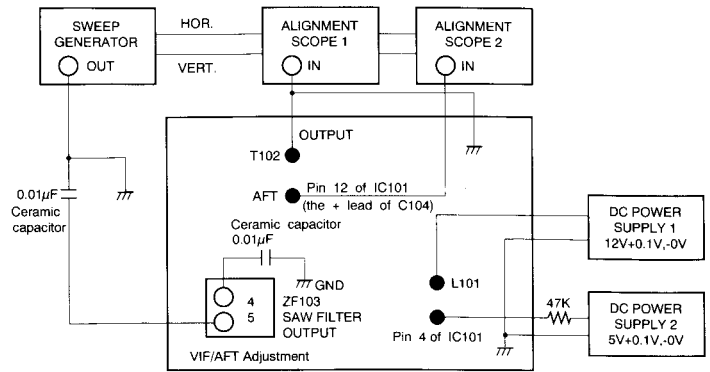
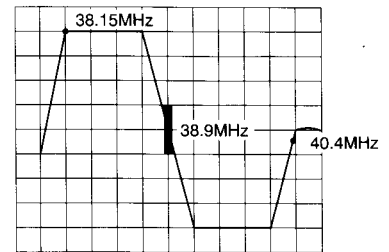
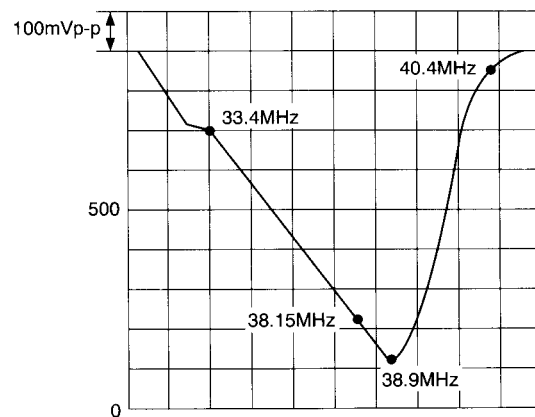
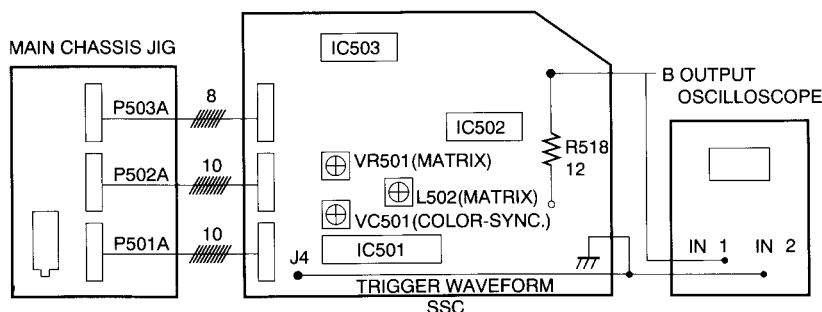

Fig. 1
Fig. 4 AFT Adjustment Waveform
Fig. 3 VIF Adjustment Waveform
Fig. 5 Connection Diagram
- ① Connect equipment to the main chassis referring to fig.1.
- ② Vary the controller of the alignment scope 1 so that the waveform's size may be proper for adjustment.
- ③ Vary L103 the 38.9MHz to be located as shown in fig.3.
- ① Adjust AFT after VIF adjustment.
- ② Vary the controller of the alignment scope 2 so that the waveform's size may be proper for adjustment.
- ③ Confirm the output from the SWEEP GENERATOR whether the set condition is correct or not.
- ④ If it is not correct, vary the RF ATENUATOR(1-10dB).
- ⑤ Vary L102 the 38.9MHz to be located as shown in fig.4.
- ⑥ Short SL1.
- ① Connect equipment to the chroma board referring to fig.5.
- ② Supply the digital pattern signal to the TV.
- ③ Set the color, contrast, brightness to normal using the remote control key (→, ←).
- ④ Connect the pin 6(color) of IC501 to the pin 1(12V) of IC501.
- ⑤ Short the 21(B-Y) of IC501 and the pin 22(R-Y).
- ⑥ Vary VC01(trimmer capacitor) so that the color bar does not flow.
- ① Adjust MATRIX after COLOR SYNC adjustment.
- ③ Set the color, contrast, brightness to normal using the remote control key(→, ←).
- ④ Connect the IN1 terminal of the oscilloscope the R518 as shown in fig.5.